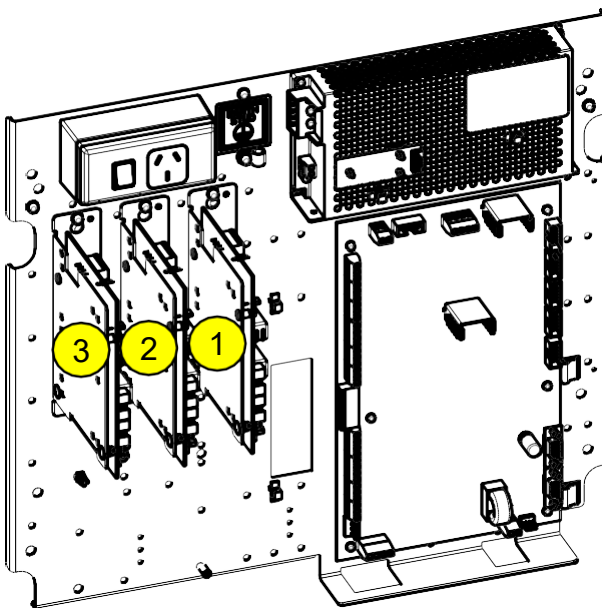

Figure 4a – Bracket Locations
- On the bracket on the gear plate – see Figure 4a. This is the recommended method if the gear plate is suitable.
Choose the next bracket position using Figure 4a as a guide. Fit one of the M4 screws from the kit in the top fastening point but do not tighten it. Remove the Loop Card and bracket assembly from its ESD protection and hang it on this screw using the "keyhole" mounting hole in the rear of the bracket. Fit the other M4 screw in the bottom fastening point and tighten both screws.